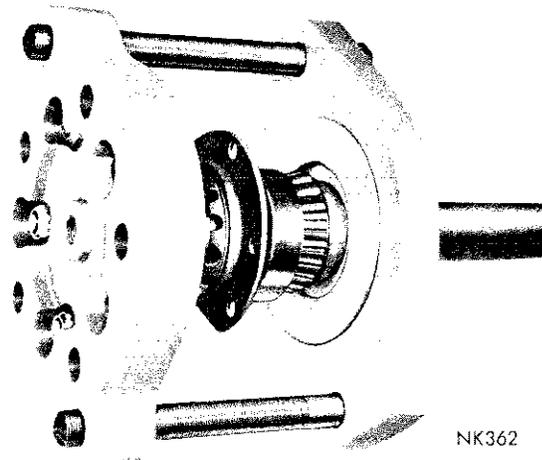

Fig. 13—Installing New Bearing and Collar
- (1) Install the retainer plate on the axle shaft.
- (2) Install a new bearing cone, cup and collar using Tool C-3971 (Fig. 13).
- (3) Tighten the long bolts alternately until the bearing and collar are installed.